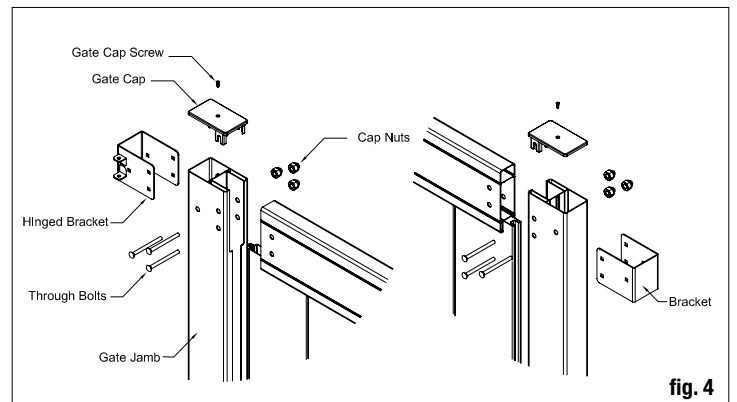

fig. 4
Place gate jambs on both sides of the rails place the hinges on the gate jamb so they are aligned with the rails. Using the bracket as a guide, drill the three (3) necessary 1/4" holes for the bracket bolts. Repeat these steps for the hinged brackets as well (fig. 4). Ensure the rails are fully inserted in the jamb before drilling. The bolts need to go through the jamb and rail to function properly.